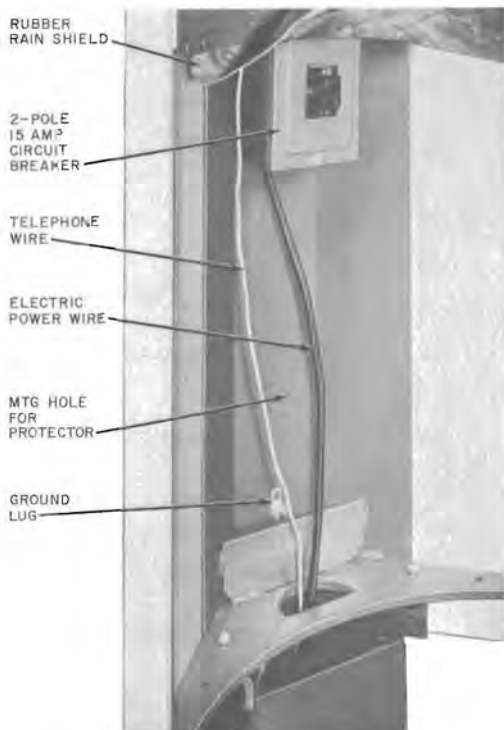
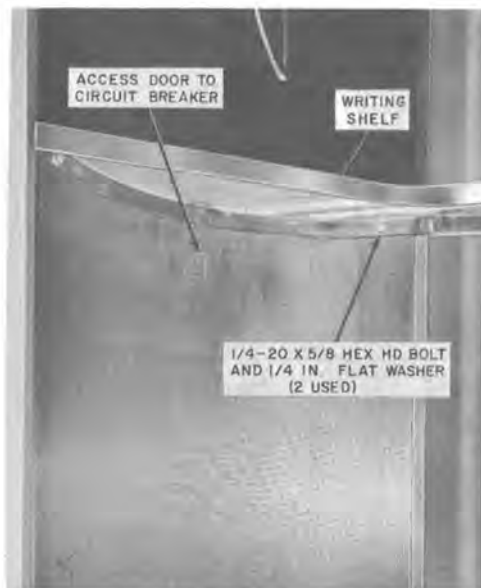

Fig. 13—Left Bottom of Booth With Panel Removed
Fig. 14—Lower Left Inside Panel
2.13 A 2-pole, 15-amp pushbutton circuit breaker (Fig. 13) is located under the shelf in the left wall, protected by a rubber rain shield. Access for operating the circuit breaker switch (which is operated by pushing on the rain shield) is through a small sliding door (Fig. 14) in the perforated panel. The circuit breaker and lamps are prewired
3.11 Install the 123A1A protector (furnished locally) using the mounting holes provided near the circuit breaker (Fig. 13).
3.17 Install the lower left inside wall panel in reverse order from which it was removed (see 3.10) being careful to place the circuit breaker access door at top (Fig. 14).